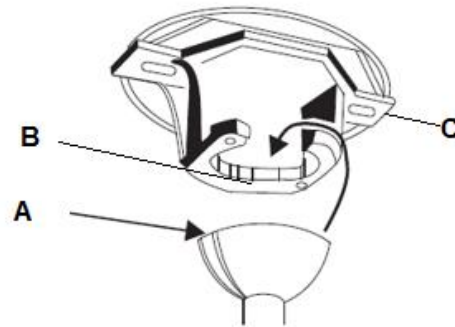

Fig. 9
4. Hang the complete fan assembly onto mounting bracket. (“Hanging the fan” section & Fig. 9)
HANGING THE FAN (Fig. 9)
Lift the fan assembly onto the mounting bracket. Ensure the key slot (A) of the hanger ball is positioned on the key pin (B) of the mounting bracket (C) to prevent the fan from rotating when in operation. (Fig.9)